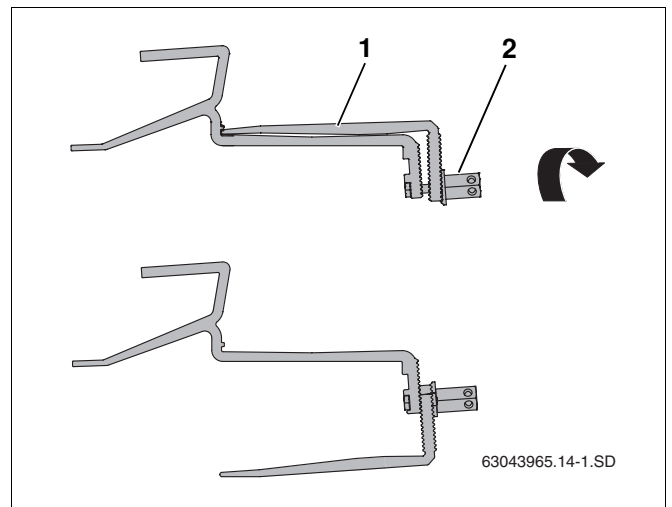

Fig. 11 Turning the lower part of the roof hook
- Loosen the long hexagon nut (Fig. 11, **Item 2**) on the roof hook and move the lower part of the roof hook (Fig. 11, **Item 1**) to the correct position.